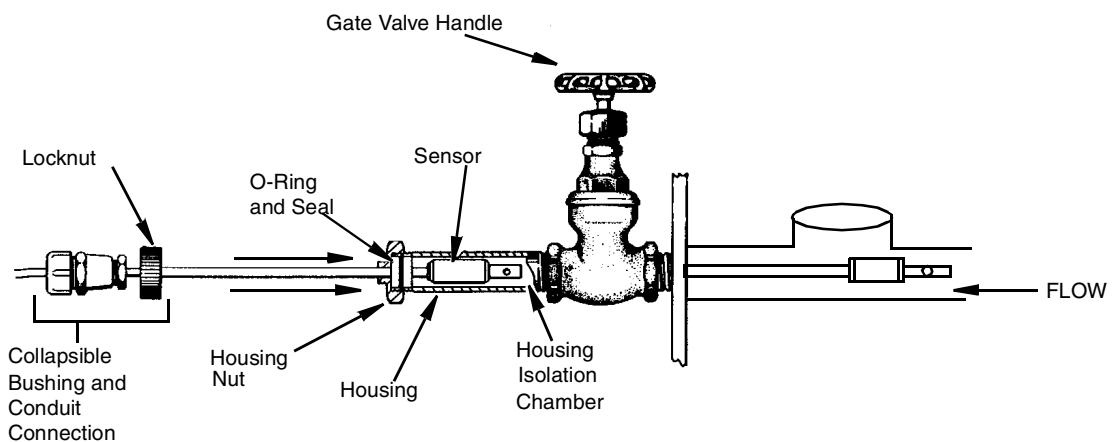

Figure 10. Installation of Insertion Sensor into Gate Valve and Process
9. Turn the gate-valve handle clockwise (see Figure 10) until the valve is completely seated (closed).
11. Insert the gate-valve insertion sensor into the housing isolation chamber until the O-ring and seal are seated into the end of the housing (see Figure 10).